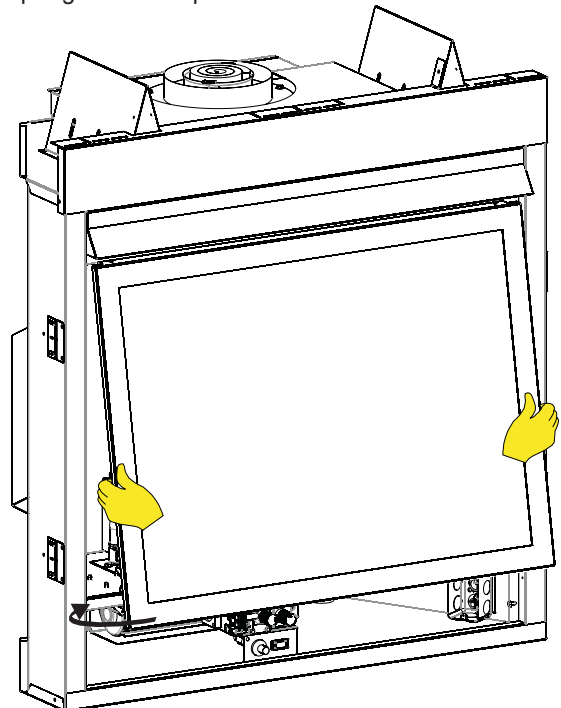

Figure 78
2. Gently lower the glass frame into place. See Figure 78 for proper glass frame placement.
- Check all latches or other door retention components for proper operation, tension, and relief mechanisms are free from obstructions. **See Figures 78 and 79.**